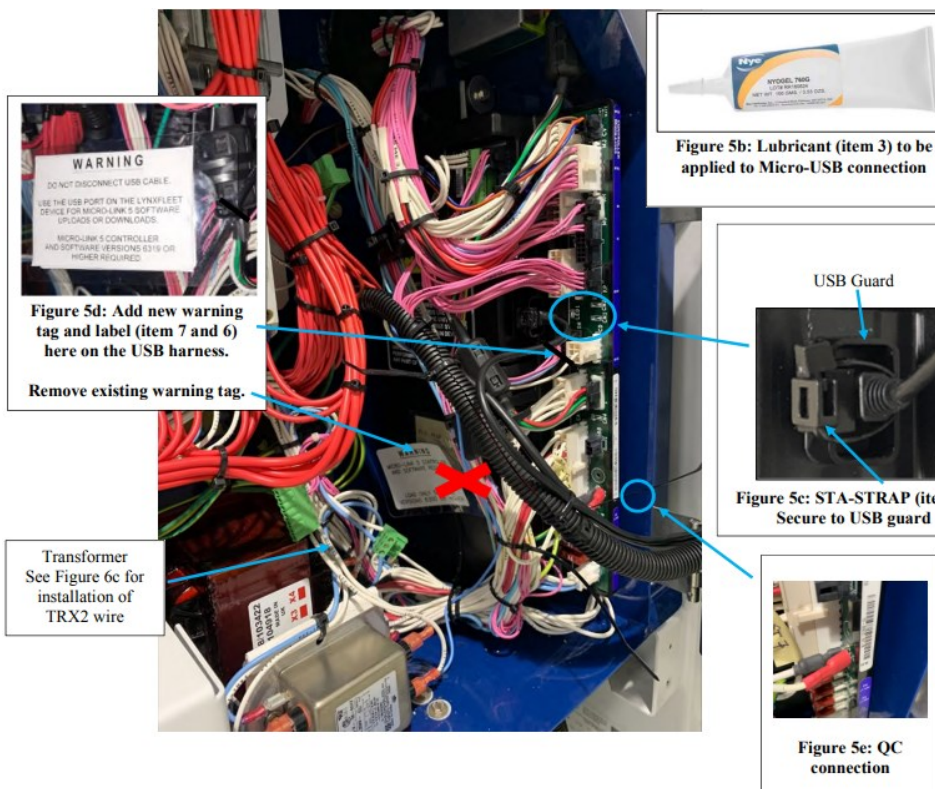

**Figure 4a: Module
8. Note the ground screw location and wire orientation. See Figure 4a. The module may need to be pushed up when tightening it down to clear the ground screw.